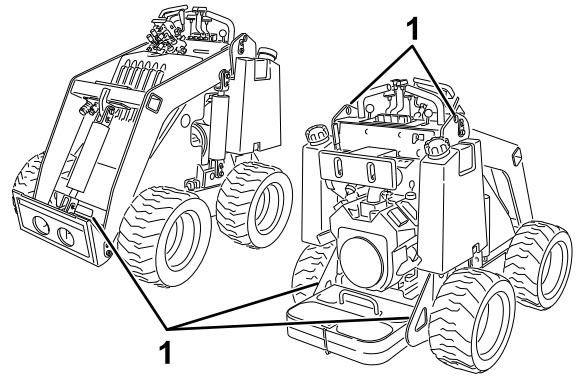

Figure 13
You can lift the machine using the tie-down/lift loops as lift points; refer to Figure 13.
8. Use the metal tie-down loops on the machine to securely fasten the machine to the trailer or truck with straps, chains, cable, or ropes (Figure 13). Refer to local regulations for tie-down requirements.